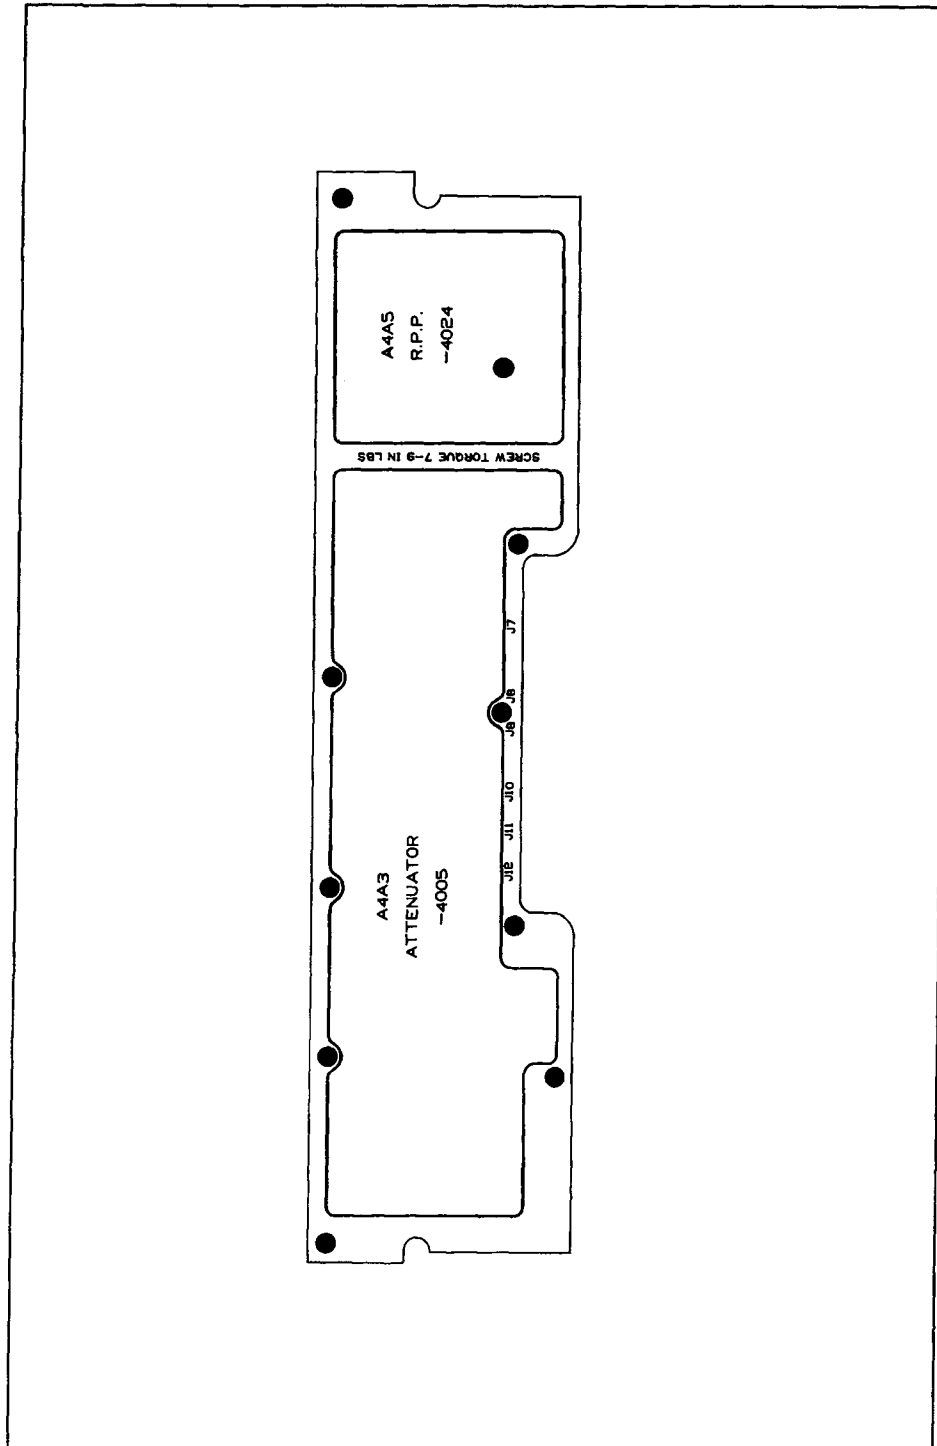

Figure 3-10. A4A5 RPP PCB Cover
- a. Torque all screws to 3 inch-pounds in the numerical sequence in Figure 3-10.
- b. Torque all screws to 7 to 9 inch-pounds in the numerical sequence shown in Figure 3-10. The torque value should be the same for all screws.